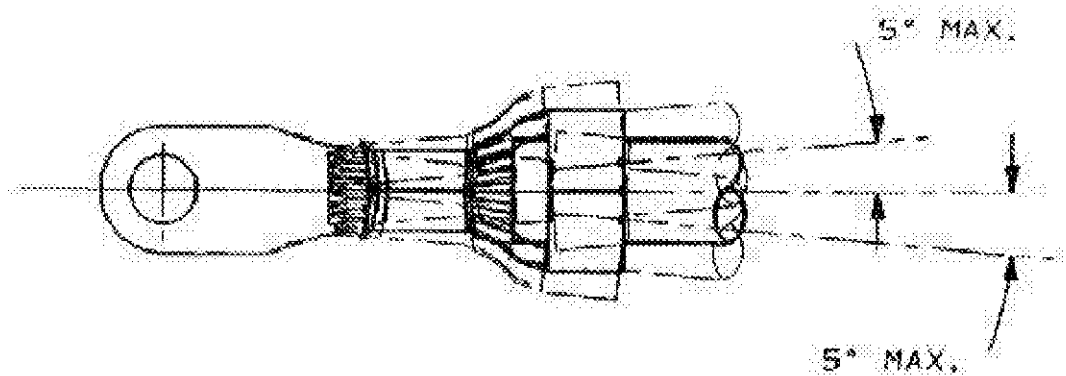

Figure 3
5.2 The side to side bending of the contact shall not exceed the limits specified in Figure 3 .